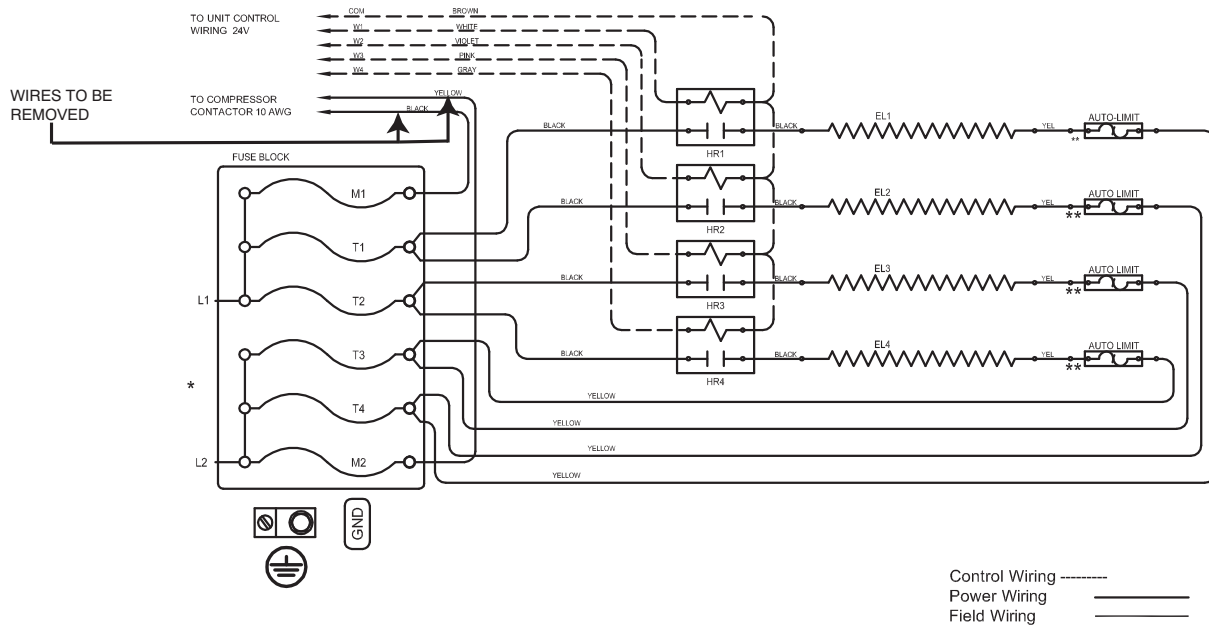
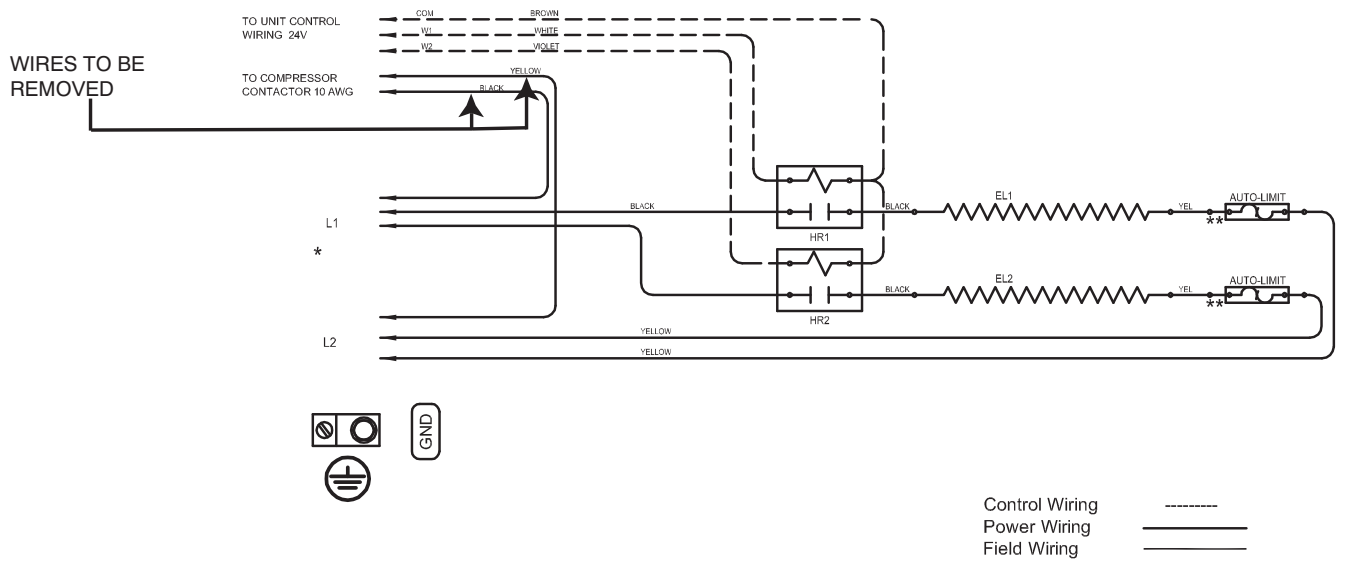

Fig. 4 - Wiring Diagram Example for Fused Heater
Fig. 5 - Wiring Diagram Example for Non-Fused Heater
- Remove power line connection from heater to unit contactor and compressor (see Fig. 4 and Fig. 5). These are the stripped end wires black and yellow, with opened ends.